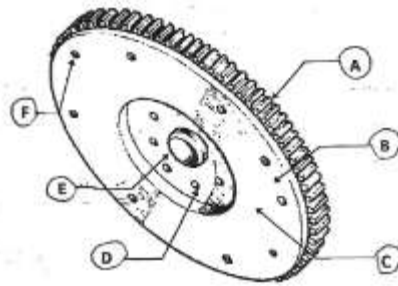

FIGURE 2
2.1 FIGURE 2, DIAGRAM SHEET 1 (attached) shows a sketch of the flywheel of an internal combustion engine.